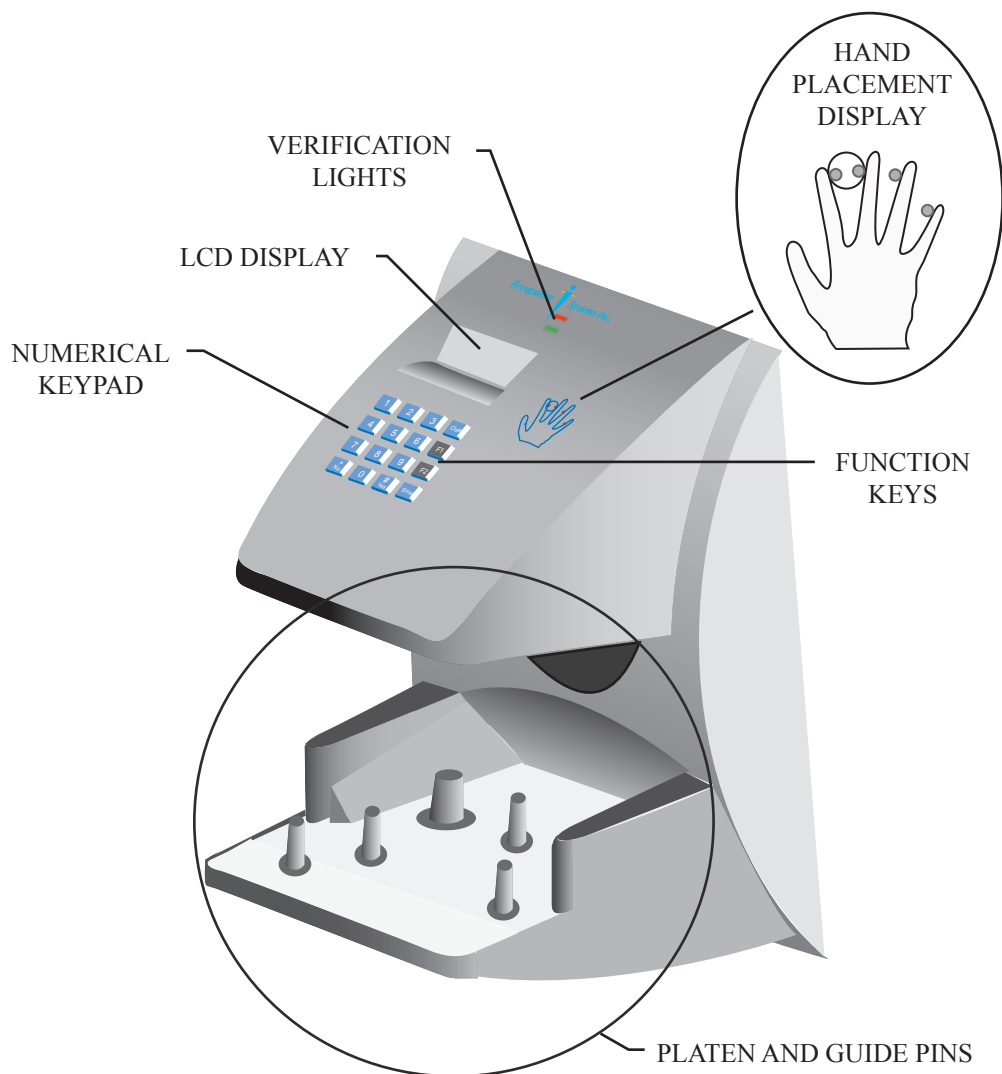

Figure 1-1: The HandKey II
**The HandKey II Reader** The HandReader is an intelligent access control system that can operate as a stand-alone unit, in a network with other HandReaders, or in a network with a host computer. Refer to Figure 1-1 when reviewing the information in this section.
2. The platen is the flat surface at the base of the HandReader (see Figure 1-1). This is where users place their hands for enrollment and verification. It has guide pins to position the fingers during use.